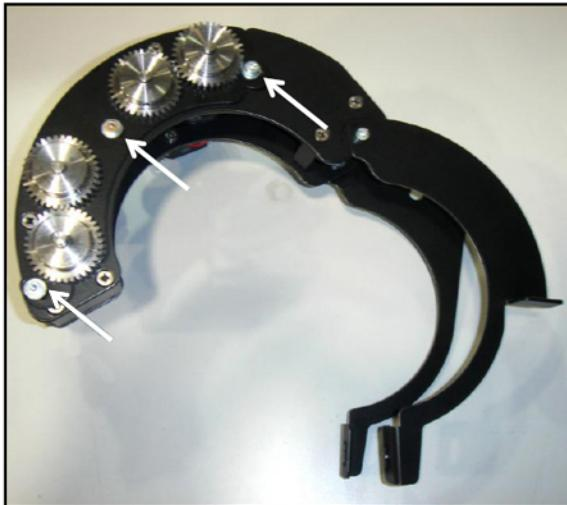

Figure 3-8 Unlock Motor Adjustments
5. Loosen the screws at the locations shown in **Figure 3-8** to unlock the motor position adjustments.
9. Inspect the motor gears to ensure they are meshed with the lens gears. Tighten the motor position adjustment screws loosened earlier (Refer back to **Figure 3-8**).